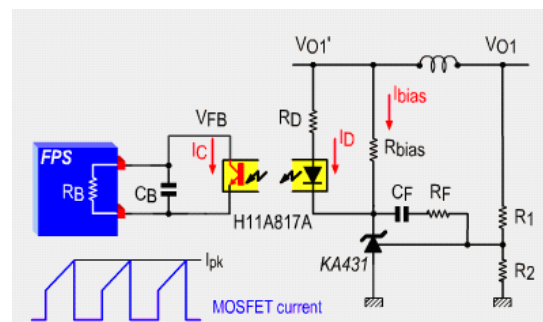

Figure 15. Typical Feedback Network of FPS
When FPS acts in Burst mode and the Burst operation is suspected to be a source of noise, this method may be helpful. If the frequency of Burst mode operation lies in the range of 2~4 kHz, adjusting feedback loop can shift the Burst operation frequency. In order to reduce the Burst operation frequency, increase a feedback gain capacitor (CF), opto-coupler supply resistor (RD) and feedback capacitor (CB) and decrease a feedback gain resistor (RF) as shown in Figure 15. Typical Feedback Network of FPS.